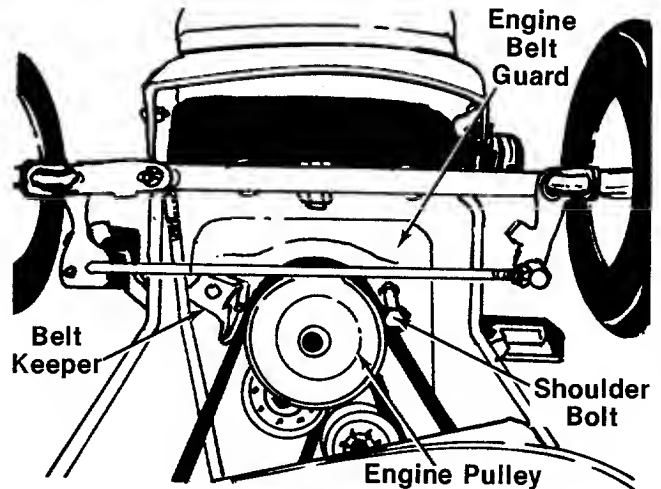

FIGURE 18.
Figures 18 and 20 are shown with the unit tipped up for clarity. It is not necessary to tip the unit to remove the belts.
2. Remove the shoulder bolt and belt keeper from the engine pulley belt guard. See figure 18.
2. Remove the engine belt guard from the engine pulley by removing the two front engine bolts. See figure 18.